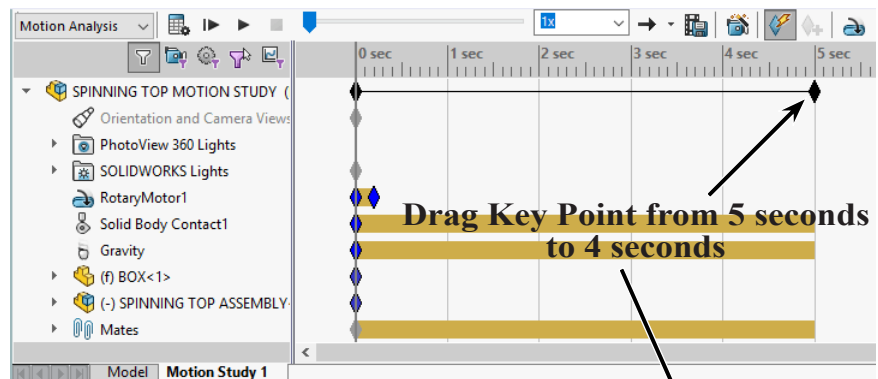

Fig. 17
Step 1. **Set the Motion Study duration to 4 seconds** on the Timeline. To change duration, in the top Timeline drag the **Key Point** at 5 seconds to 4 seconds, **Fig. 17**.